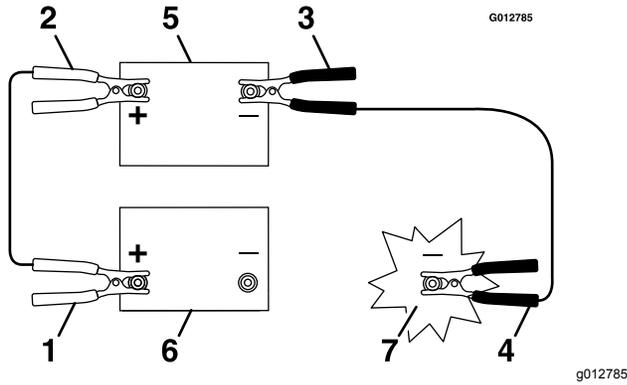

Figure 48
3. Connect the positive (+) cable to the positive (+) terminal of the discharged battery that is wired to the starter or solenoid as shown in Figure 48.